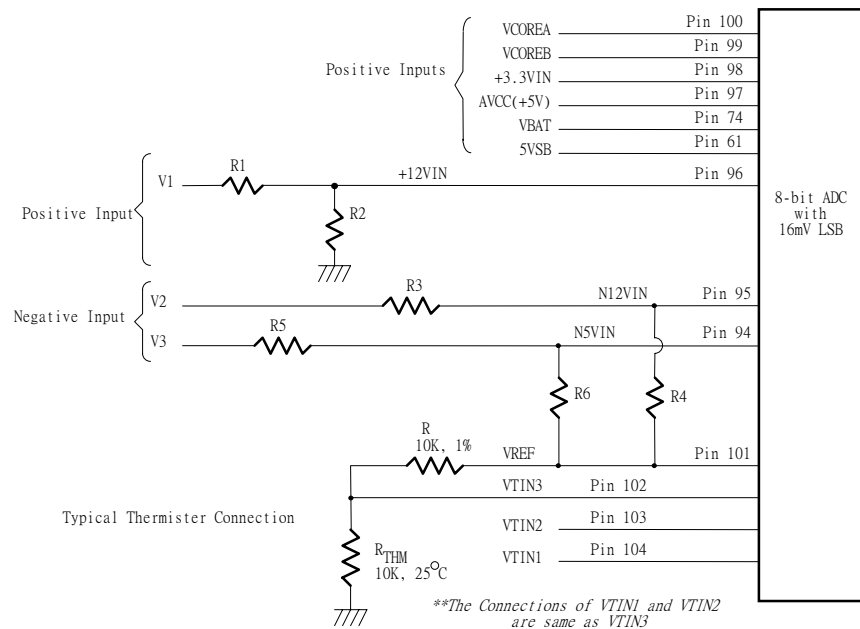

Figure. 11.2
The maximum input voltage of the analog pin is 4.096V because the 8-bit ADC has a 16mV LSB. Really, the application of the PC monitoring would most often be connected to power suppliers. The CPU V-core voltage, +3.3V, battery and 5VSB voltage can directly connected to these analog inputs. The +12V, -12V and -5V voltage inputs should be reduced a factor with external resistors so as to obtain the input range. As Figure 11.2 shows.
The negative voltage should be connected two series resistors and a positive voltage VREF (is equal to 3.6V). In the Figure 11.2, the voltage V2 and V3 are two negative voltage which they are -12V and -5V respectively. The voltage V2 is connected to two serial resistors then is connected to another terminal VREF which is positive voltage. So as that the voltage node N12VIN can be obtain a posedge voltage if the scales of the two serial resirtors are carefully selected. It is recommended from Winbond that the scale of two serial resistors are R3=232K ohms and R4=56K ohm. The input voltage of node N12VIN can be calculated by following equation.
The W83627HF can connect three thermistors to measure three different envirmnt temperature. The specification of thermistor should be considered to (1)  $\beta$  value is 3435K, (2) resistor value is 10K ohms at 25°C. In the Figure 11.2, the themistor is connected by a serial resistor with 10K Ohms, then connect to VREF (Pin 101).